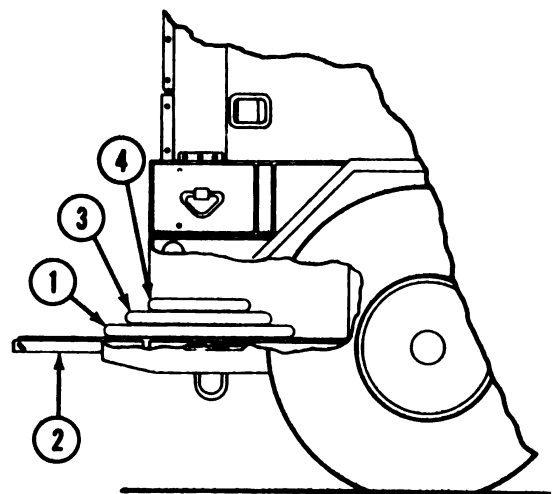

Figure 17-4. Storing Cables in Storage Tray
(5) Store cables in storage tray.
(a) Coil 75-foot power/control cable (1, Figure 17-4) so it extends partially onto tailgate (2). Allow room at back of storage tray.